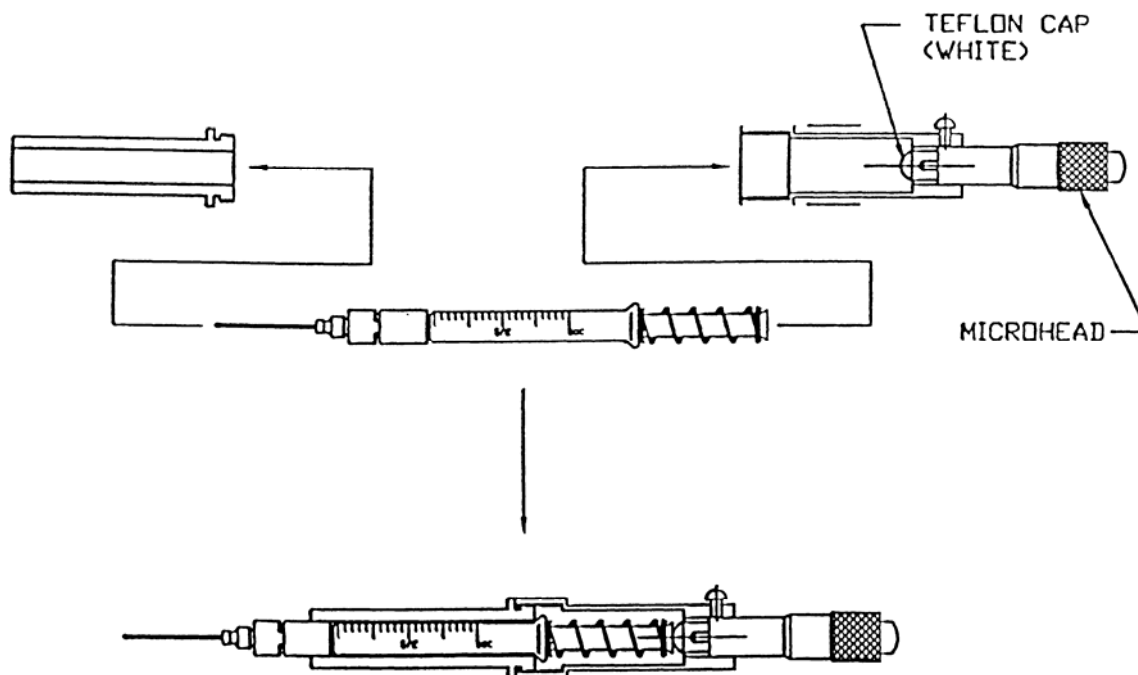

Figure 11
5. Assemble the droplet regulator assembly as shown below (See assembly in Figure 11 below).